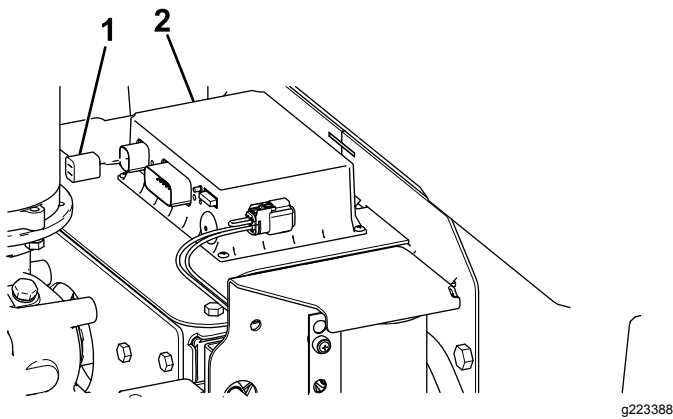

Figure 28
7. Locate and remove the plug on the control module (Figure 28).
8. Connect the pump connector to the control module (Figure 28).